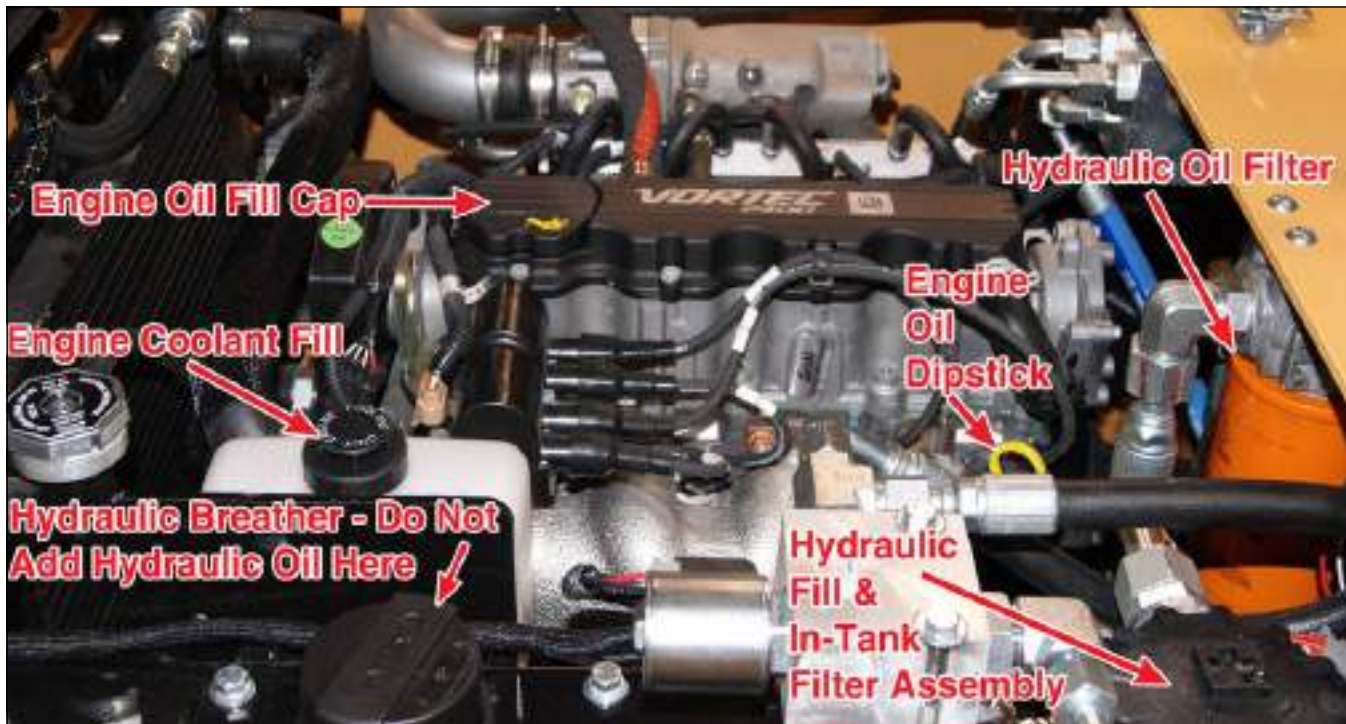

Figure 2-7: Engine Compartment Fluid Checks
7. Clean the area around the hydraulic fill cap, then open the cap (turn counterclockwise). See Figure 2-7.
6. Clean the area around the engine fill cap, then open the cap (turn counterclockwise). **See Figure 2-7.**